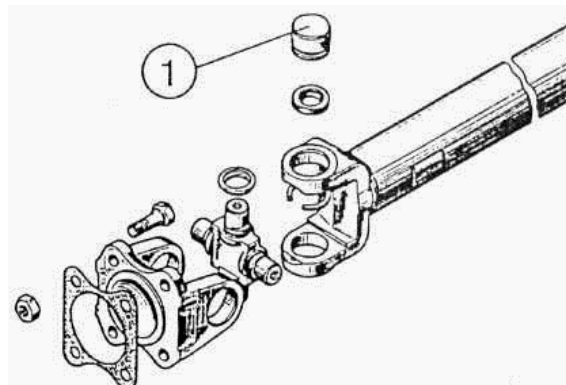

Figure 5.19
h) when assembling cardan shaft cross-pieces and before pressing-in needle bearings (1), fill them in with consistent grease No 158 (figure 5.19);